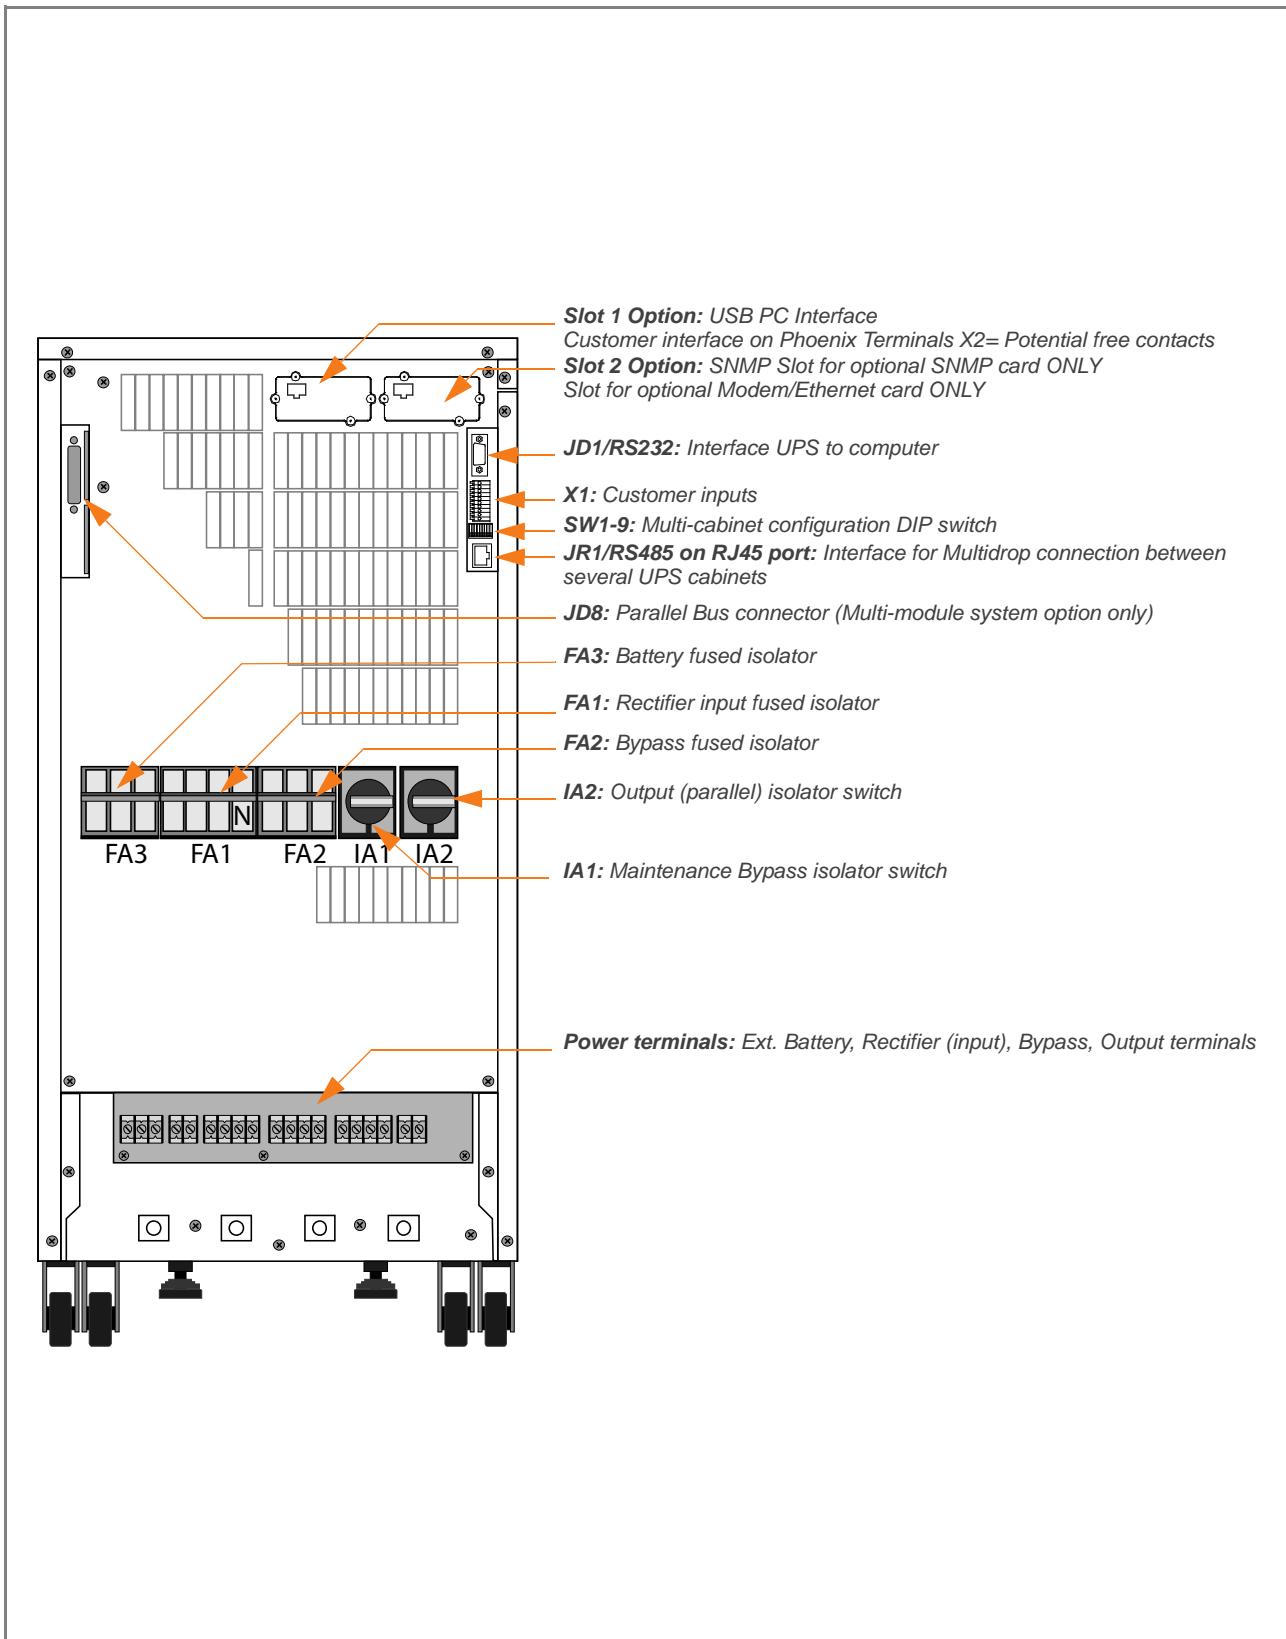

Figure 3.10 10 kVA–15 kVA Cabinet A connector details (rear view)
3. Connect the earth cable from the LV-Distribution Board to the protective earth (PE) busbar in the UPS, located adjacent to the power terminals, as shown in Figures 3.10, 3.11, 3.12.
3. Connect the protective earth cable from the Load Distribution Board to the protective earth (PE) busbar in the UPS – located adjacent to the power terminals, as shown in Figures 3.10, 3.11/ 3.12.
2. Fit the Parallel Adaptor PCB over connector JD8 on all UPS-Cabinets (see Figure 3.10 – 3.12).
DIP Switch SW1-9 (see Figure 3.10 – 3.12) must be set according to the position of the cabinet in a parallel module chain. The three options are: